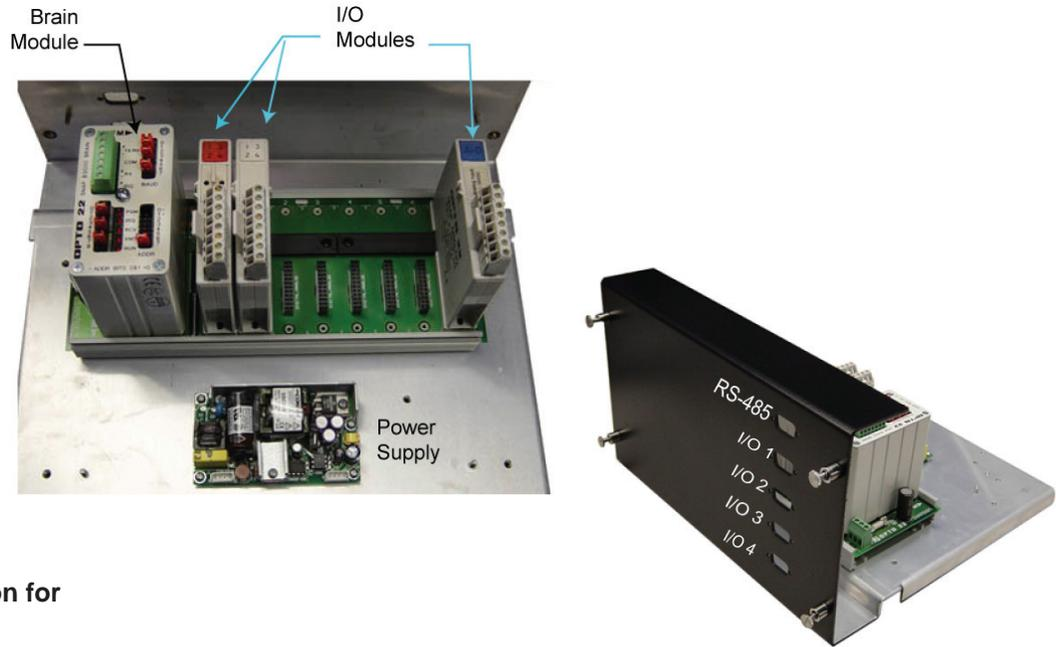

Figure 1-8.
This option is used when your application requires additional information that can only be obtained through analog/digital input or output. The Opto I/O system consists of a series of I/O modules, a “brain” module and a power supply. It is housed in the opposite end of the unit from the extended pressure range option system and slides out for easy access. The unit provides four (4) I/O connectors and one RS-485 connector (Figure 1-8). More information on configuring your I/O system can be found in the Appendix of this manual.